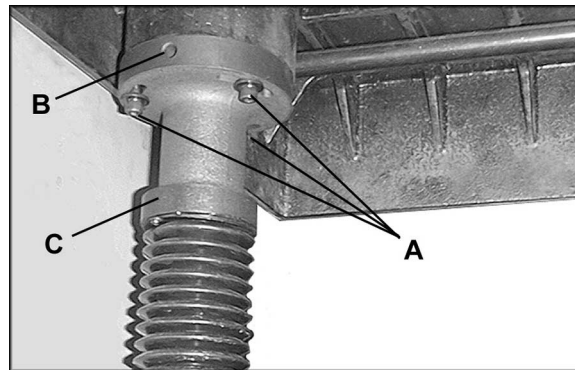

Figure 15
3. Loosen the three socket head cap screws (A, Figure 15) beneath the table.
4. Place a rod-like object (such as a hex wrench) into one of the open holes (B, Figure 15) and turn the shaft (C, Figure 15) to raise the table until the gauge reads the proper measurement. Or, the same effect can be achieved by lowering the other side of the table.
5. Re-tighten the socket head cap screws (A, Figure 15).